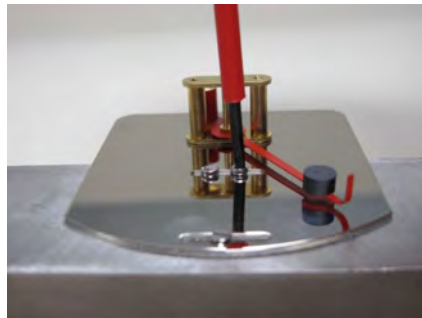

Fig. 41
5. ➔ Loosen fixing screws from the display base plate (Fig. 41) then remove the display base plate from the device.